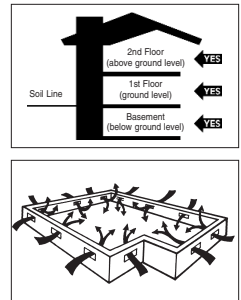

Figure 1
- Crawl spaces must be a minimum of 18" (46 cm) from the ground to the underside of the joists. A ground cover of 6-20 mil black polyethylene film is essential as a vapor barrier with joints lapped 6" (15 cm) and sealed with moisture resistant tape. The crawl space should have perimeter venting equal to a minimum of 1.5% of the crawl space square footage. These vents should be properly located to foster cross ventilation (Figure 1). Where necessary, local regulations prevail.